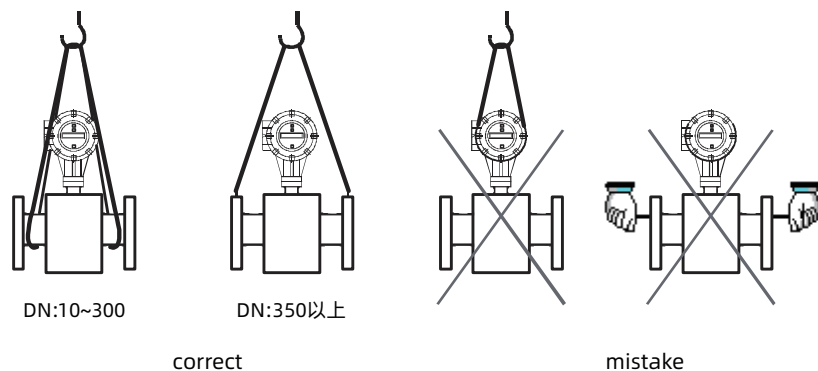

Figure 20
1. Be careful not to damage the instrument when unpacking. It is best not to unpack the instrument until it is transported to the installation site to avoid damage to the instrument. Use mounting rings when lifting the instrument, never lift the instrument with a rod or rope through the sensor measurement tube. The correct way to lift the instrument is shown in Figure 20.